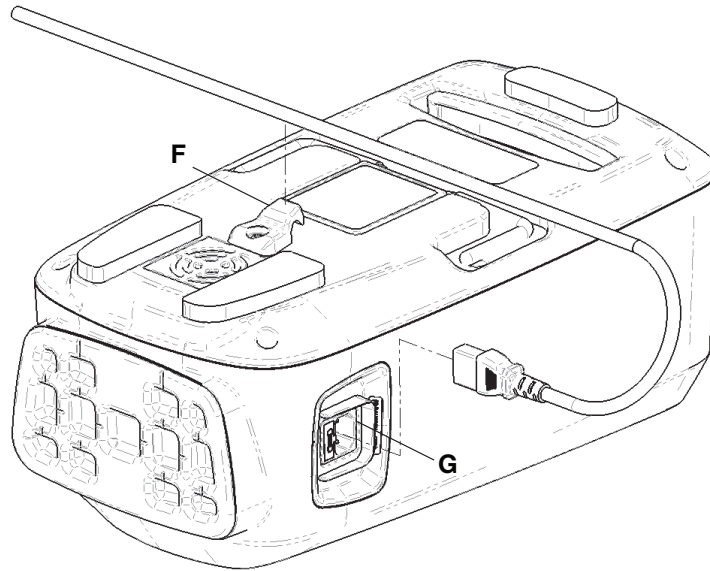

Figure 9 – Insert power cord
- Insert the power cord under the power cord retention flex grip (F) (Figure 9).
7. Plug the support surface hose back into the pump (G) (Figure 9).